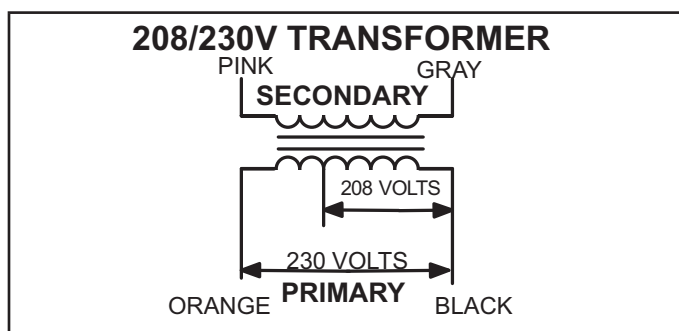

FIGURE 4
The 208/230 (Y) voltage transformers use two primary voltage taps as shown in FIGURE 4, while the 460 (G) voltage transformer use a single primary voltage tap. T43 is used for units with hot gas reheat for additional 24VAC.